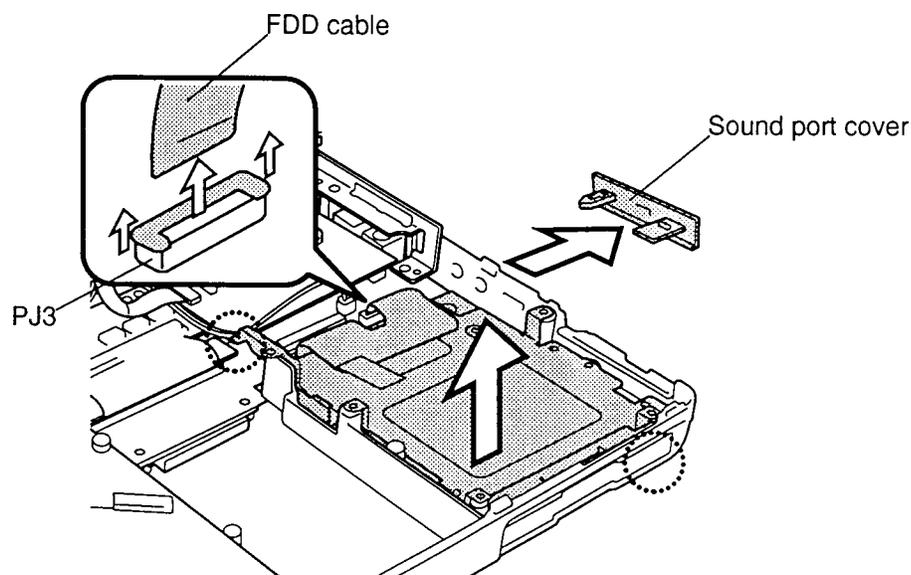

Figure 4-16 Removing the FDD with bracket
To remove the T2400CS/T2400CT's floppy disk drive, follow the steps below and refer to figures 4-16 and 4-17.
3. Disconnect the FDD cable from PJ3 on the lower system board and remove the sound port cover (figure 4-16).
4. Lift out the FDD from the system unit (figure 4-16).
To install the T2400CS/T2400CT's floppy disk drive, follow the steps below and refer to figures 4-16 and 4-17.
2. Place the FDD assembly in the computer, and connect the FDD cable to PJ3 on the lower system board (figure 4-16).